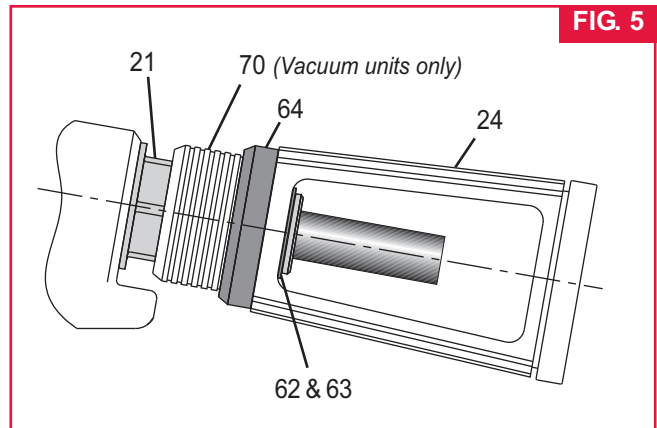

FIG. 5
202B: By reaching through the window of Pintail Bottle (24) remove Retaining Ring (62) and Washer (63), then remove Pintail Bottle (24) and Adapter (64). (Figure 5).
202V & 202LV (Refer to Figs. 5, 6 & 15)
5. Position Adapter (64) and pintail bottle (24) on End Cap (21) (Fig. 5 & 15).
6. By reaching through the window of the Pintail Bottle (24), install Washer (63) and Retaining Ring (62) as shown in (Fig. 5).